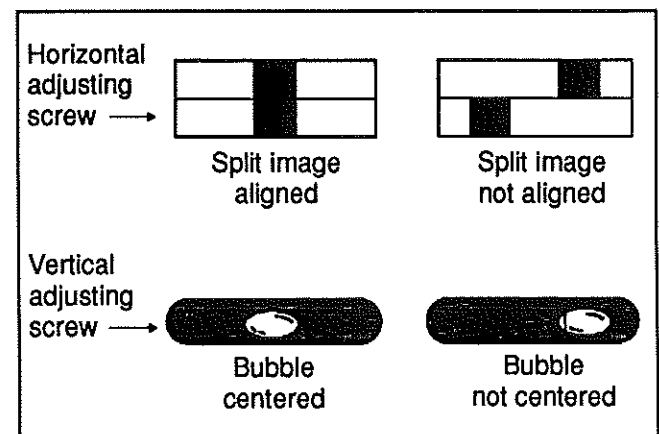

Fig. 46
3. Turn the horizontal aim adjusting screw of each headlight until split image is aligned (see fig. 46).
2. Turn the adjusting screw of the headlight vertical aim until bubble is centered (see fig. 46). Repeat operation on other headlight.